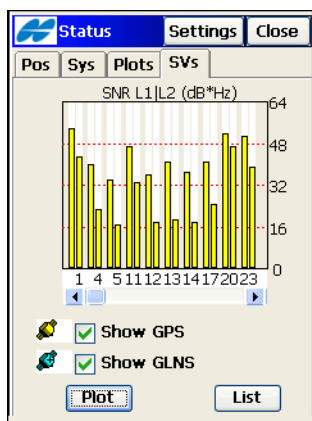

Figure 8-20. Status – SVs SNR
- **SNR** – toggles the appearance of the screen to a table displaying the signal-to-noise ratio of each of the satellites (Figure 8-20).
- **Back** – return to the sky plot view (Figure 8-20 on page 8-20).